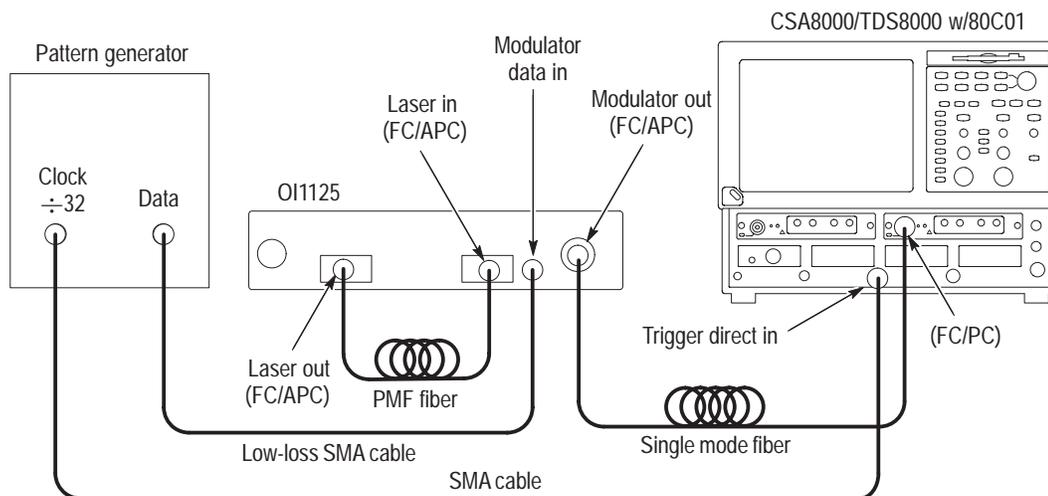

Figure 2: Basic functional test setup
To perform a functional check of the OI1125 E/O Transmitter, you must connect a setup as shown in Figure 2. This setup measures the optical output of the transmitter directly, requiring an oscilloscope or signal analyzer with optical input capabilities. This is the method that is used in the *Eye Pattern Test Matrix* in the *Performance Verification* on page 44.
1. Connect the test setup as shown in Figure 2, and power on the equipment.